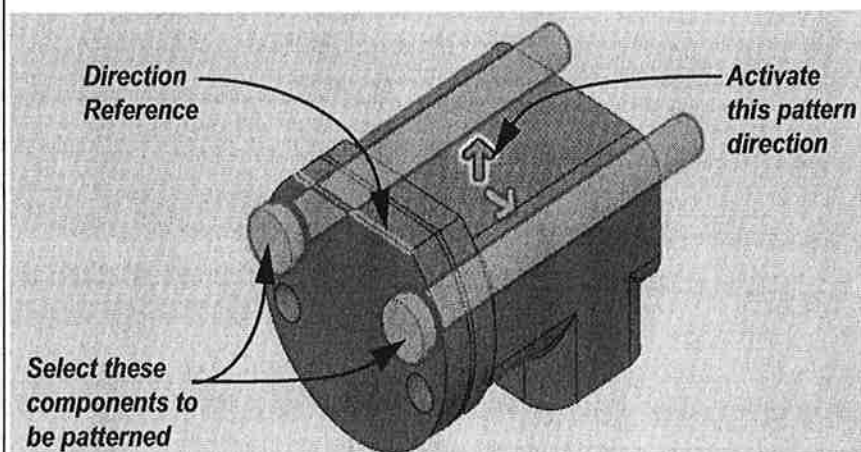

Figure 16–28
8. Select the patterning direction arrow that is perpendicular to the selected edge, as shown in Figure 16–28.